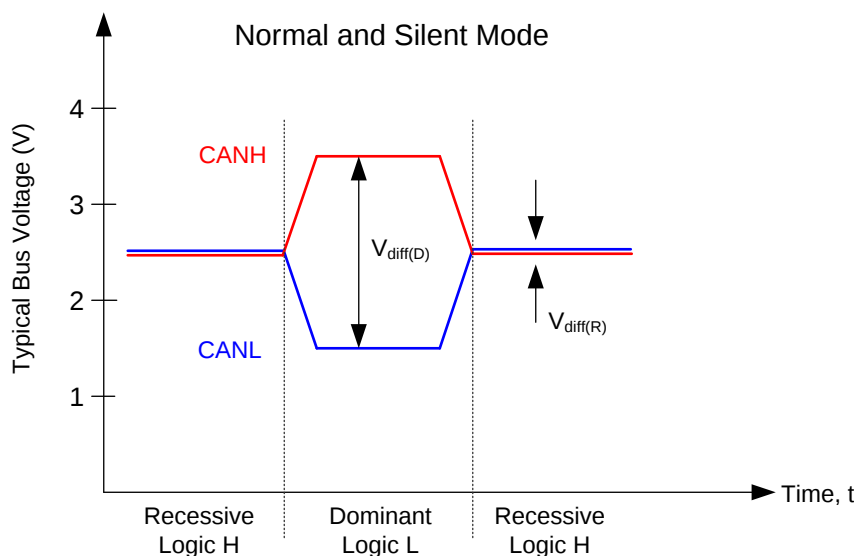

图 13. Bus States (Physical Bit Representation)
- (1) H = high level, L = low level, X = irrelevant, Z = common mode (recessive) bias to $V_{CC} / 2$. See 图 13 and for bus state and common mode bias information.
- (2) Devices have an internal pull up to V_{CC} or V_{IO} on TXD terminal. If the TXD terminal is open the terminal will be pulled high and the transmitter will remain in recessive (non-driven) state.